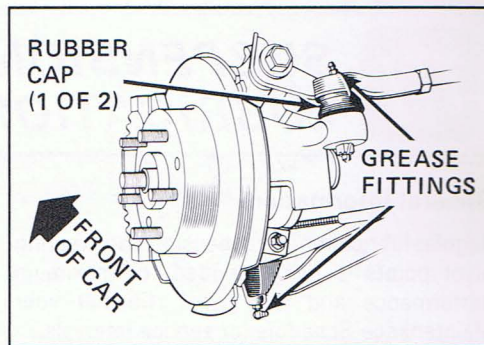

Figure 3 - Rear suspension (driver's side)
1. Wipe the 4 grease fittings (2 on each side) clean with a cloth. See Figure 3.